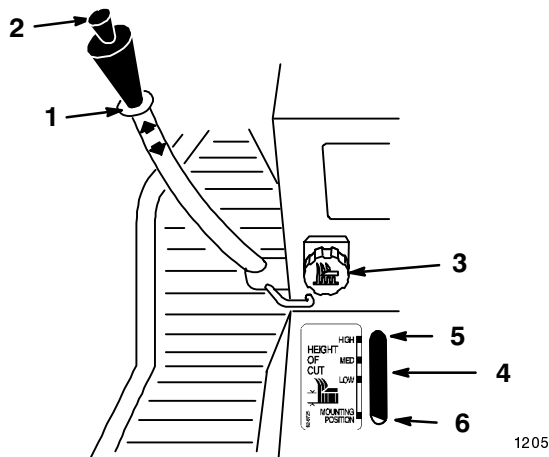

Figure 11
The attachment lift lever (Fig. 11) is used to raise and lower various attachments.
The Dial-A-Height control (Fig. 11) is used to limit the downward travel of the attachment. The Dial-A-Height knob is rotated to change the location of this stop, up or down.
1. Raise the attachment lift lever; refer to Raising Attachments. In the raised position the Dial-A-Height knob (Fig. 11) can be rotated to change the stop location. Turn clockwise to raise and counterclockwise to lower the height of the attachment.
2. The Dial-A-Height indicator (Fig. 11) will show the change, high to low, in attachment lift height as adjustment is made.